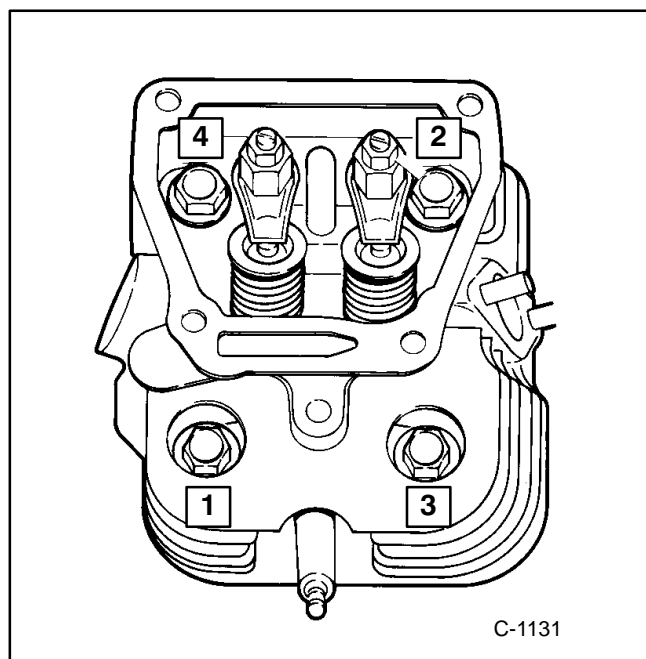

FIGURE 9-3. CYLINDER HEAD TIGHTENING SEQUENCE
6. Place head in position and follow head torque tightening sequence shown in Figure 9-3. Start out tightening all bolts to 14 ft-lb (19.6 n•m), then tighten to the specified torque (see Torque Specification section).